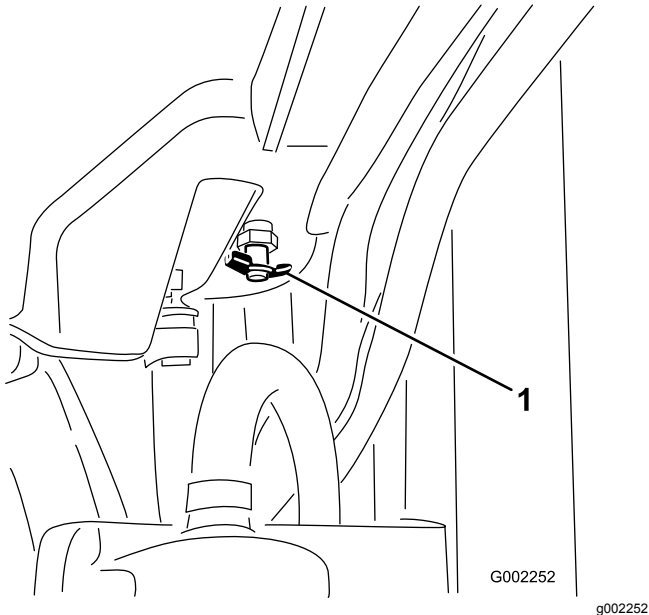

Figure 55
4. Open the drain (Figure 55) and drain the coolant into the pan.